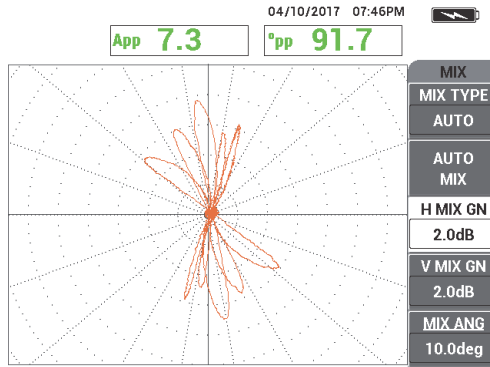

Figure 5-174 The tube scan result
12. Scan the tube for defects (see Figure 5-174 on page 251).